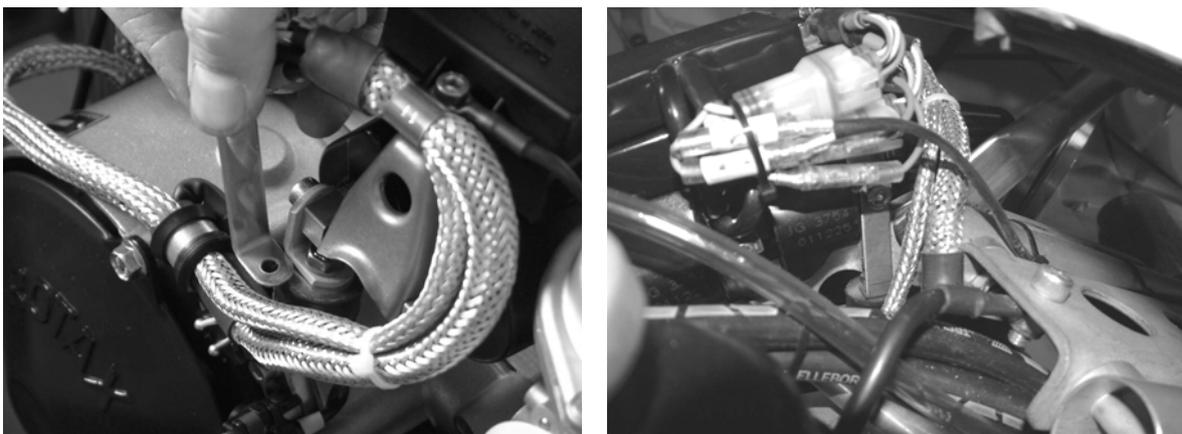

Figure 132; replacement CDI mounting bracket.
- g) Replace the L-bracket above the rubber part of the rear CDI mounting with the supplied longer version, Figure 132.